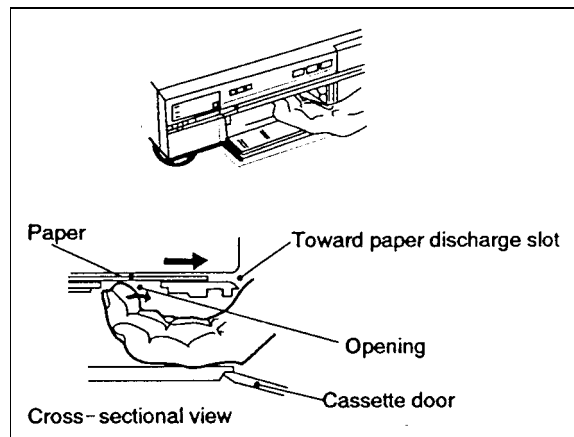

Figure 6-20. Removing Paper from Discharge Slot
6. Insert your finger into the cassette compartment and push any jammed paper out of the discharge slot (Figure 6-20).